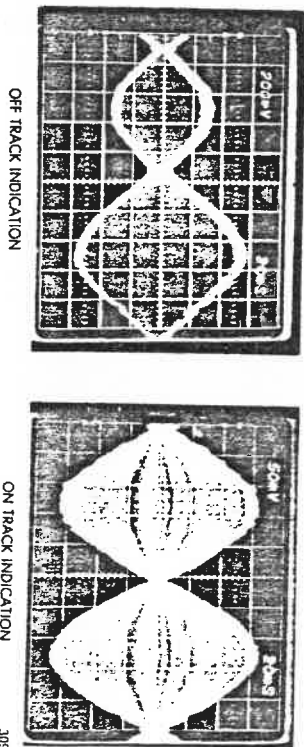

Figure 3.3. Cats Eye Pattern
- (1) Load magnetic heads.
- (2) Select the lower head.
- (3) Perform 16 Step-In commands. The carriage will move to Track 16 (approximately).
- (4) Loosen the two stepper motor retaining screws on bottom of chassis.
- (5) Manually rotate stepper motor until the cats-eye pattern shown in Figure 3-3 is observed. Carefully rotate stepper motor until the cats-eye pattern has equal amplitudes (one lobe being 80 percent of the other is the acceptable limit).
- (6) Secure the stepper motor by tightening the retaining screws. Torque the two screws 9 to 11 in-lb.
- (7) After securing the stepper motor screws, verify Step (5). Repeat as required.